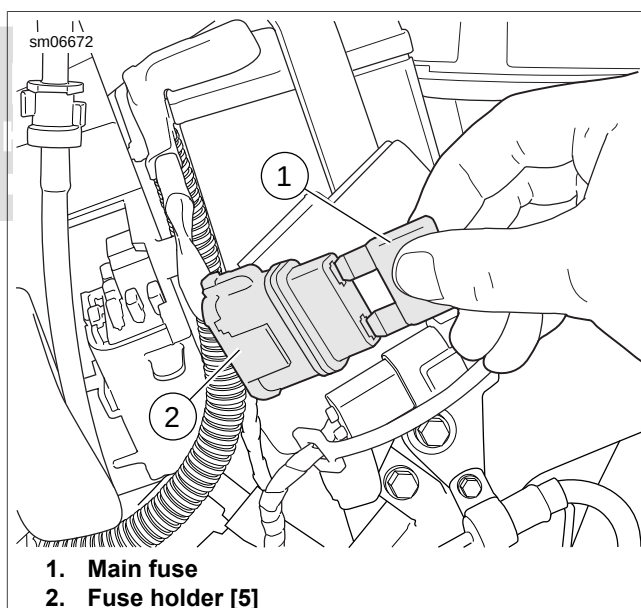

Figure 6-2. Removing/Installing Main Fuse
3. See Figure 6-2. Grasp fuse holder (2) and pull main fuse (1) straight out.
4. See Figure 6-2. While holding protective cover (3) in place, push fuse holder [5] (1) into cover until cover release latches (4) snap into place.